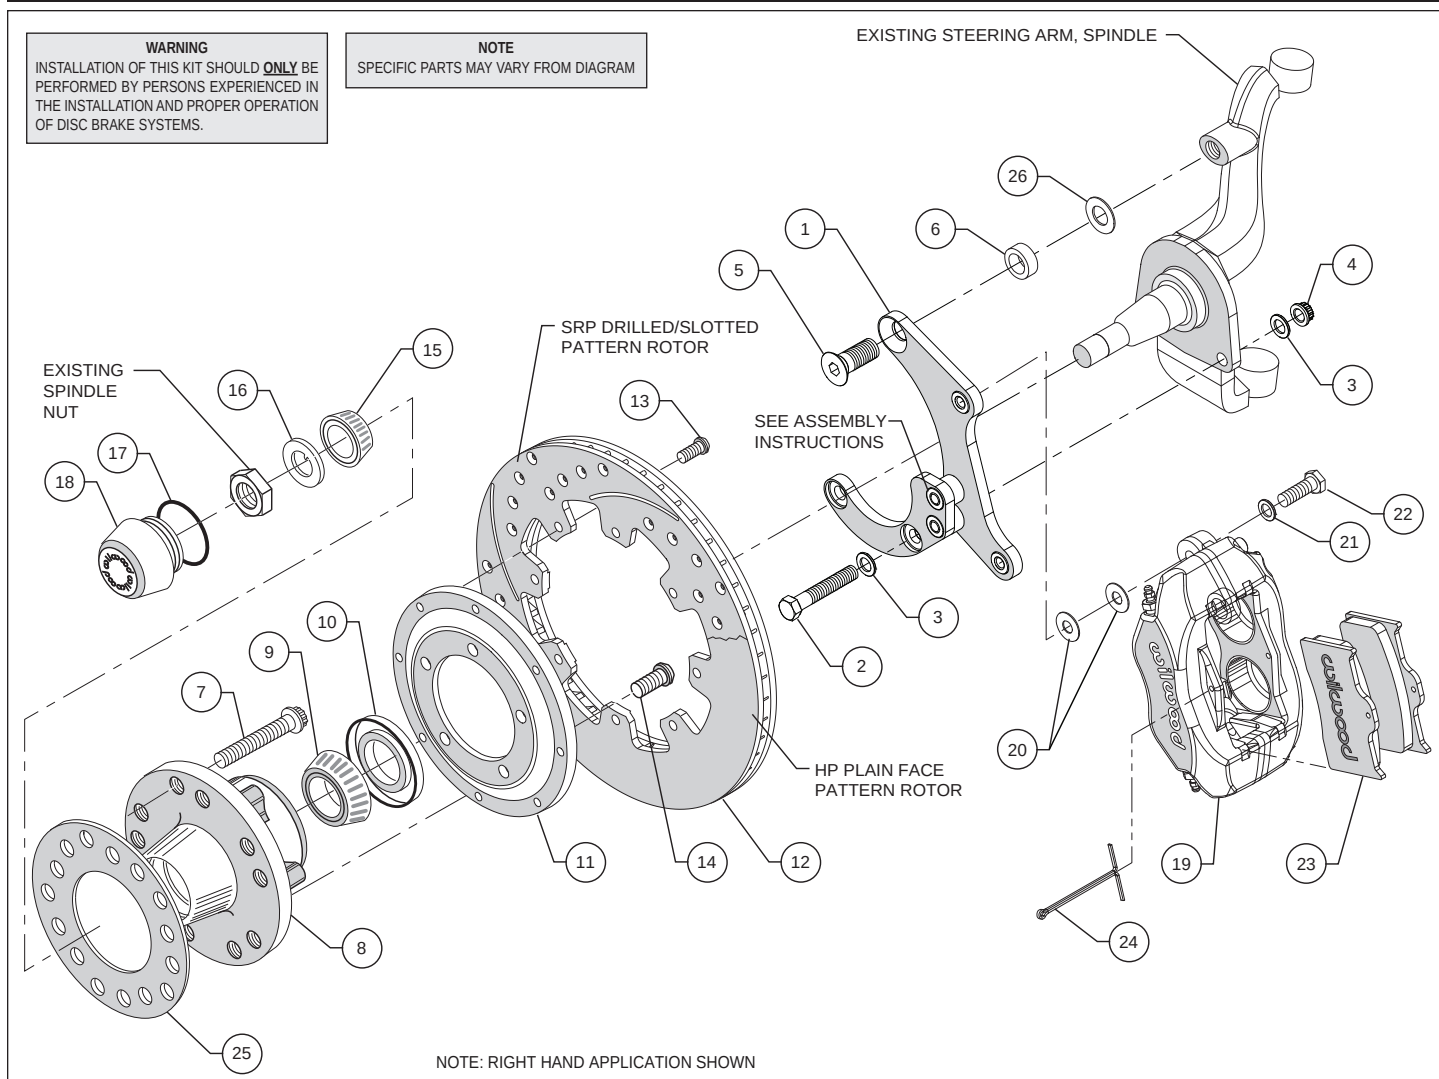
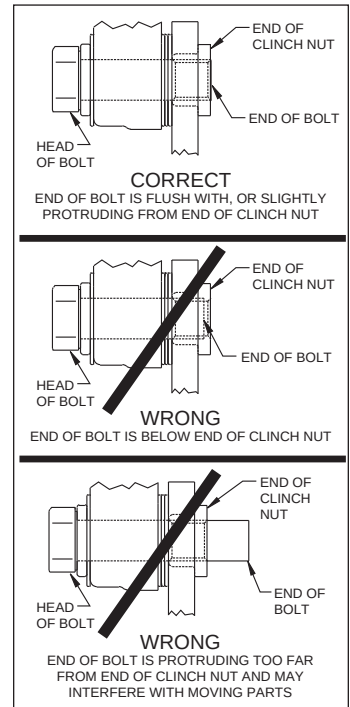

Figure 1. Typical Installation Configuration
Figure 3. Clinch Nut Engagement Diagram
**Assembly Instructions** (numbers in parenthesis refer to the parts list and Figure 1 on the preceding pages): **CAUTION:** All mounting bolts must fully engage clinch nuts. Be sure to check that all bolts are either flush or protruding through flanged side of clinch nut after shimming, Figure 3.
- The caliper mounting bracket (1) has been assembled at the factory for alignment purposes. Loosen the two bolts that secure the brackets together so that the bolts are hand tight only, this will enable the bracket assembly to be adjusted to accommodate various spindle tolerances during assembly. Align bracket with the two lower holes on the spindle face and attach using bolts (2), washers (3), and secure using lock nuts (4), as shown in Figure 1 and Photo 1. Install bolt (5) through top of bracket while placing spacer (6) between bracket and spindle, Figure 1. Ensure that the flanged heads of the clinch nuts in the bracket are facing outboard, Photo 1. Temporarily tighten the mounting bolts.
- Check that the bracket is aligned parallel to the rotor by assembling and installing the hub/rotor per the step below. If not, add shims (26) between the spacer (6) and the spindle to align the bracket, Figure 1.
- Pack the large inner bearing cone (9) with high temperature disc brake bearing grease (available from your local auto parts store) and install into the backside of the hub (8), Photo 3.
- Install the grease seal (10) by pressing into the backside of the hub (8), flush with the end of the hub, Photo 3.
- Orient the rotor (12) and the rotor adapter (11) as shown in Figure 1 and Photo 4. Attach the rotor to the adapter using bolts (13). Using an alternating sequence, apply red *Loctite*® 271 to the threads, and torque to 25 ft-lb.
- Mount the adapter/rotor assembly (11/12) to the hub (8) using bolts (14), as shown in Figure 1 and Photo 5. Using an alternating sequence, apply red *Loctite*® 271 to the threads, and torque to 55 ft-lb.
- Pack the small outer bearing cone (15) with high temperature disc brake bearing grease and install into hub (8). Slide the hub/rotor assembly onto the spindle. Secure using spindle washer (16) and OEM spindle nut, Photo 6. Adjust bearings by tightening the wheel bearing nut to 60 **in-lbs.** while turning the hub/rotor assembly (11/12). Install saved OEM nut lock (if any) on the wheel bearing nut with one pair of slots in-line with (covering) the cotter pin hole. Back off the adjusting nut lock assembly (or castle nut) one slot and install a new cotter pin (not supplied). **The resulting adjustment should be zero (no pre-load to 0.003 inch end play).**
- Screw dust cap (18) into hub (8), Photo 7. Friction created by the o-ring (17) on the dust cap keeps it from unscrewing. **NOTE:** The O.D. of the existing OEM spindle washer may be larger than the I.D. of the dust cap not allowing it to seat against the hub face. Therefore, use the spindle washer (16) supplied with the kit instead of the OEM washer.
- NOTE:** Please reference the caution statement at the beginning of the assembly instructions. Mount the caliper (19) onto the caliper mounting bracket (1) using bolts (22) and washers (21), as shown in Figure 1. Initially place two .035" thick shims (20) on each bolt between the caliper and the bracket, Photo 8. Temporarily tighten the mounting bolts and view the rotor (12) through the top opening of the caliper. The rotor should be centered in the caliper, Photo 9. If not, adjust by adding or subtracting shims between the bracket and the caliper. Always use the same amount of shims on each of the two mounting bolts. **NOTE:** The end of each bolt must be flush with or slightly protruding from the head of the clinch nut, as shown in Figure 3. If necessary place spare shims between washer (21) and caliper mounting ear to achieve the proper clinch nut engagement. Once the caliper alignment and clinch nut engagement are correct, remove the bolts one at a time, apply red *Loctite*® 271 to bolt threads, and torque to 40 ft-lb.
- Install the disc brake pads (23) into the caliper, with the friction material facing the rotor (12), and secure in place using cotter pin (24), Photo 10.